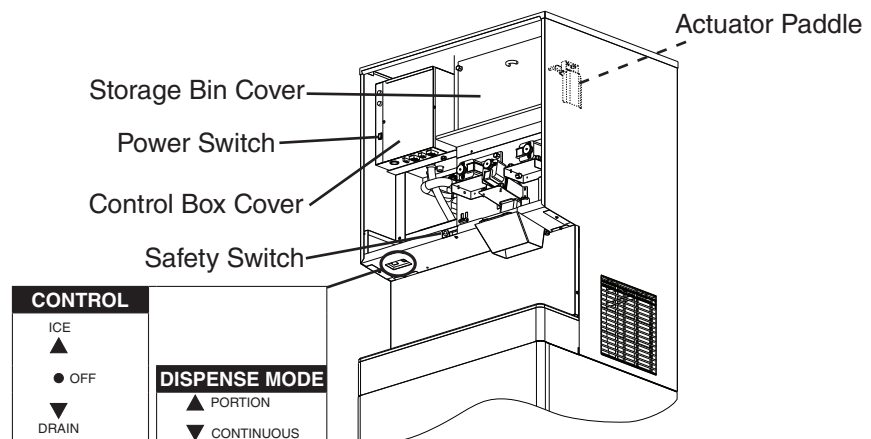

Fig. 7
- 2) Move the control switch to the "OFF" position. See Fig. 7.
- 10) Confirm bin control operation: Remove the control box cover, then engage the safety switch on the front frame. See Fig. 7. After the "GM" LED on the control board turns on, bypass the 5-minute compressor startup delay by pressing the "SERVICE" button. See Fig. 8. **WARNING! Risk of electric shock. Care should be taken not to touch live terminals.** After the compressor starts, press and hold the actuator paddle located inside the storage bin. **WARNING! Keep hands, hair, and loose clothing clear of the agitators inside the storage bin.** The icemaker should shut down within 10 seconds.